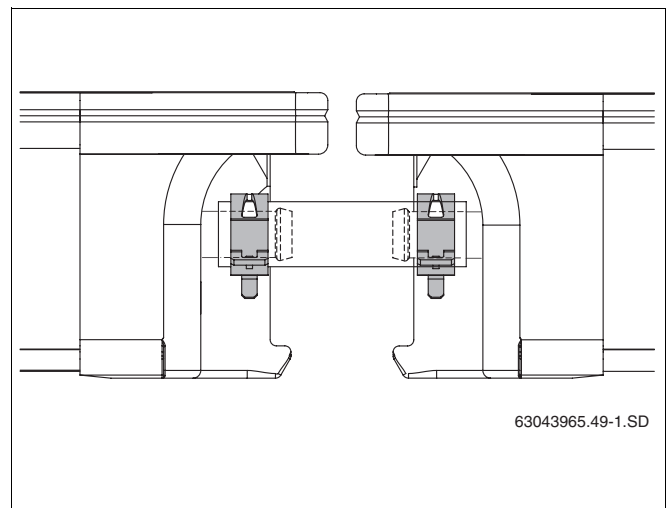

Fig. 28 Solar hose with secured hose clips
- Secure every solar hose to the collector connection using a hose clip (Fig. 28).